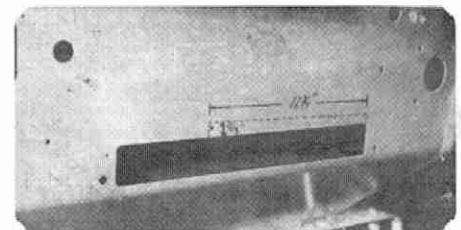
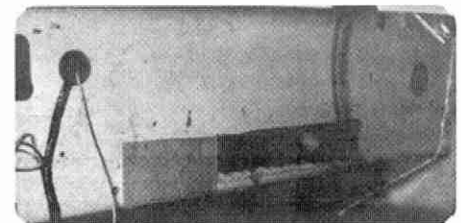

Figure 20
Figure 21
27. Before reinstalling the evaporator assembly to the motor home, it will be necessary to cut a 5/8" x 11-3/4" section out of the existing air passage hole in the firewall (Figure 20). The remainder of the hole should be covered by pop riveting a piece of sheet metal over it (Figure 21).